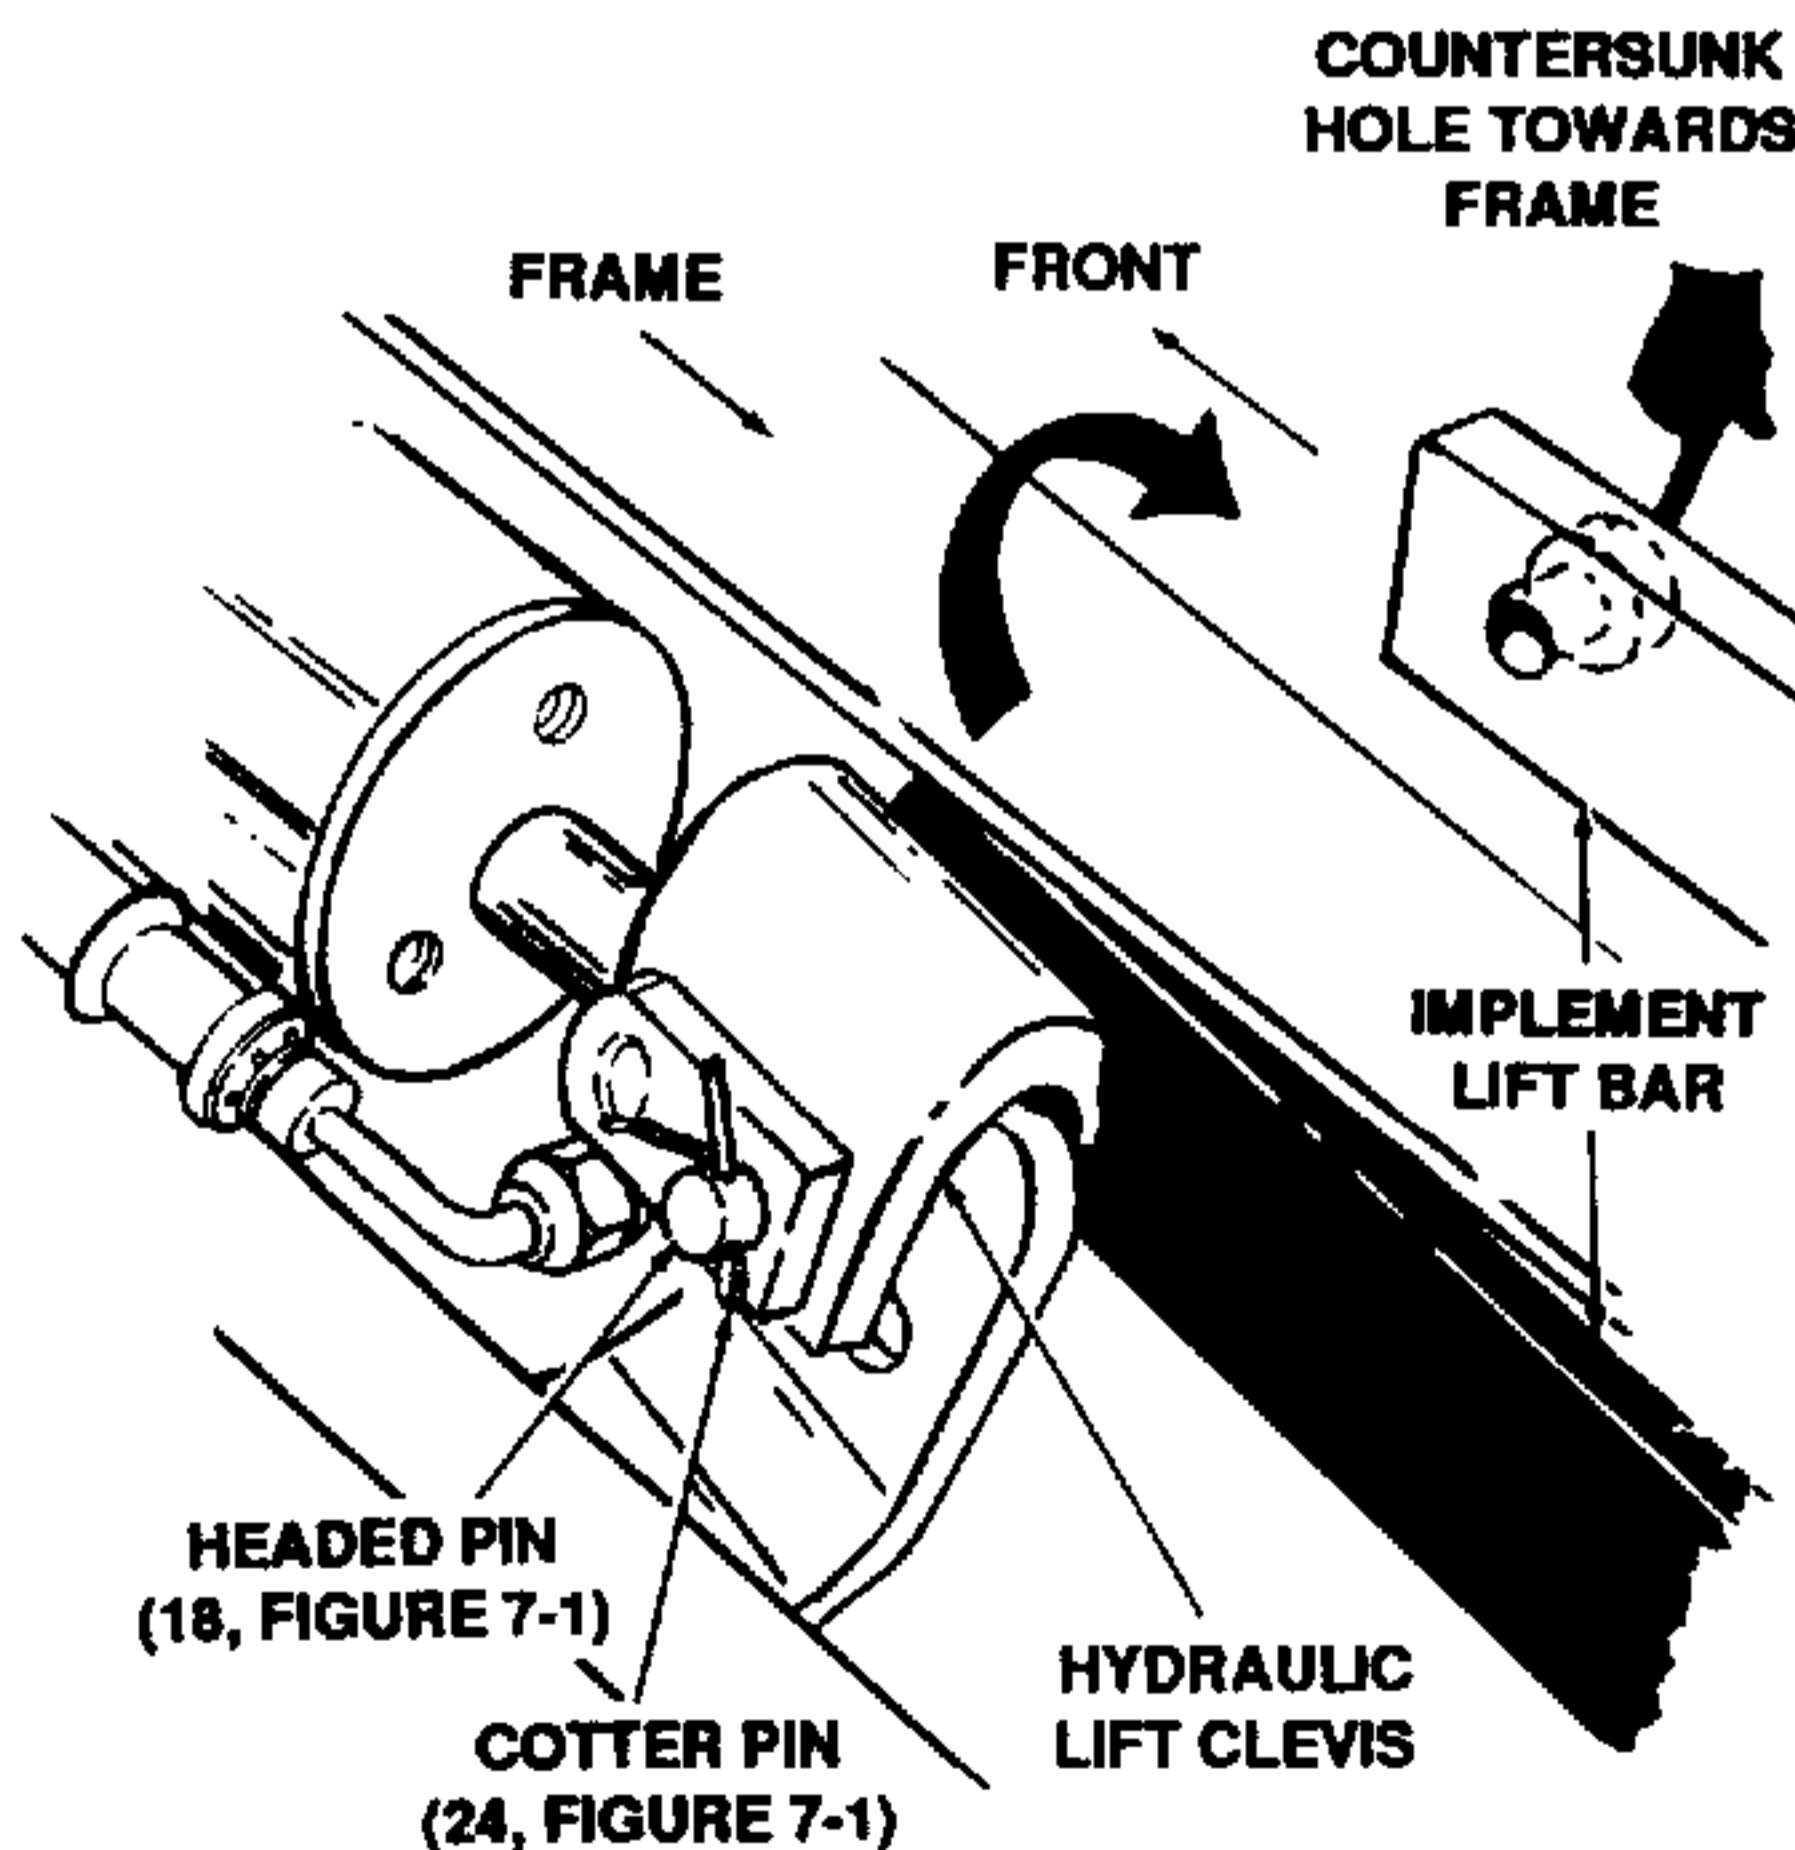

Figure 7-14. Installing Implement Lift Bar.
- b. From rear of tractor, place implement lift bar with countersunk hole towards the front of the tractor and facing the right side of the frame. Refer to Figure 7-14.